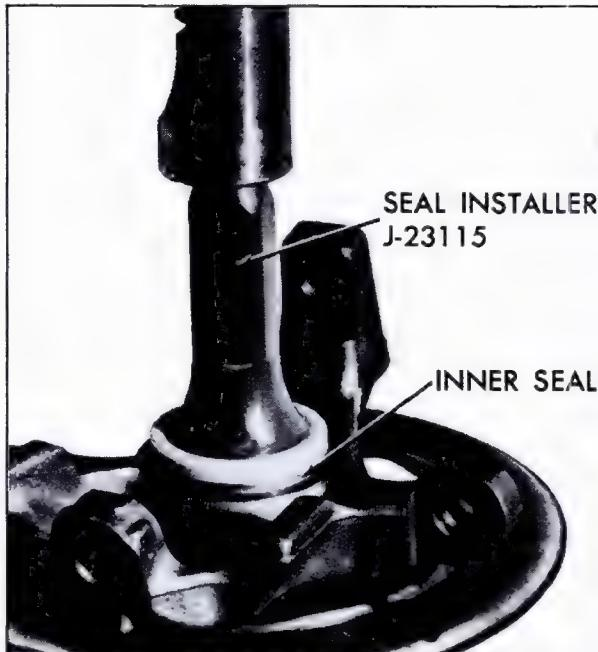

Fig. 3-42 Installing Inner Seal In Knuckle race of bearings before installing hub in knuckle and bearing assembly.
13. Install inner seal on Seal Installer, J-23115, and press inner seal into steering knuckle, Fig. 3-42.
2. Position knuckle and hub assembly on arbor press, Fig. 3-42.
knuckle and press seal into knuckle, Fig. 3-42.